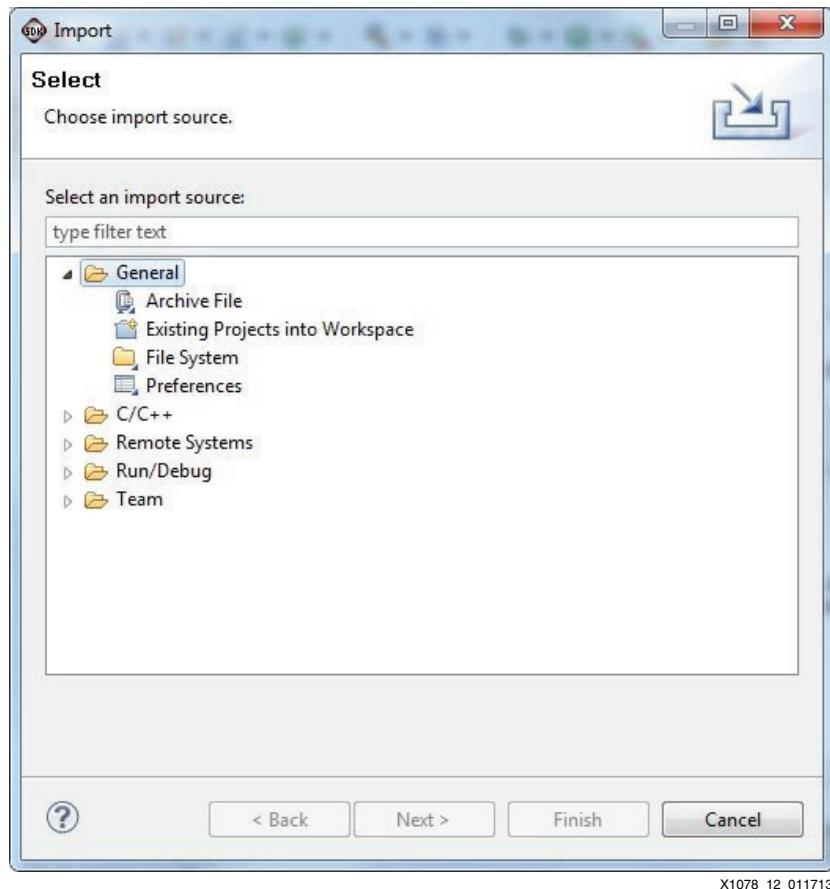

Figure 12: CPU1 Import General File System
- j. Select **General > File_System** (Figure 12).